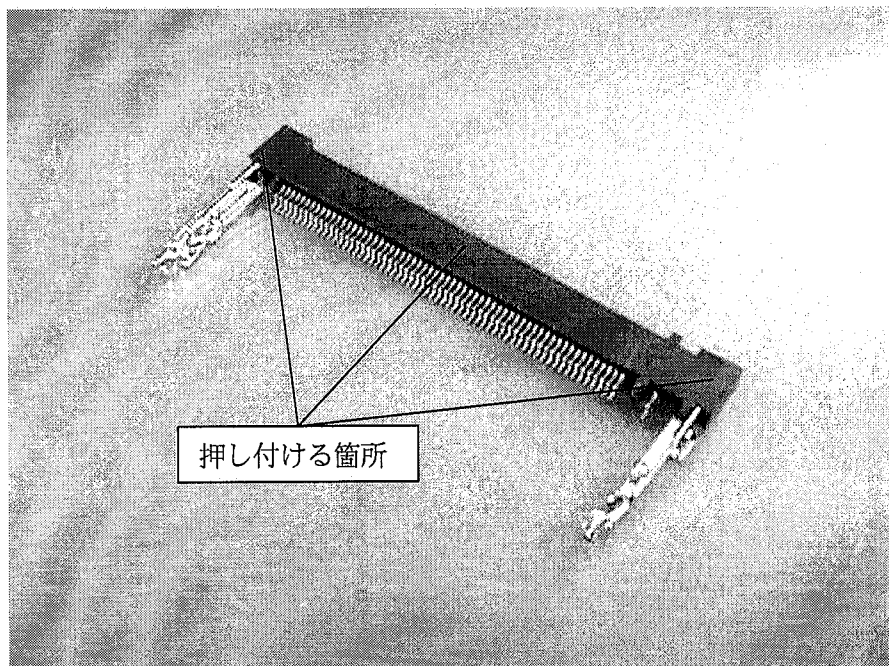

Fig. 3
- (2)-2 When manual mounting of connector is performed, be careful not to deform the latch and the tine part of the Upper and Lower Contact, and mount it parallel to the surface of the board. After mounting, softly push three parts of the connector (See Fig. 3) in order to tighten the grip.
(2)-2 マニュアル実装の場合はコネクタの上下段コンタクトタイン部とラッチを変形させずに保持して、基板面と水平に取付けて下さい。取付け後ははんだ付け性を良好にするため、Fig. 3に示すコネクタの3ヶ所を軽く基板に押し付ける様に押さえて下さい。
- (3) Number of reflow times should be kept twice of less. Reflow is the general method of soldering but in case of using a soldering tool, for fixing purpose, for instance, do not touch the part of Contacts with the tool, in order to avoid deformation.